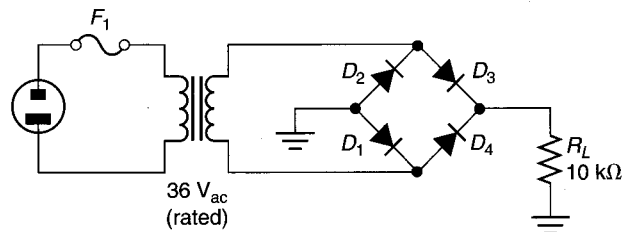

FIGURE 3.58
27. Determine the peak and average output voltage and current values for the circuit shown in Figure 3.58.